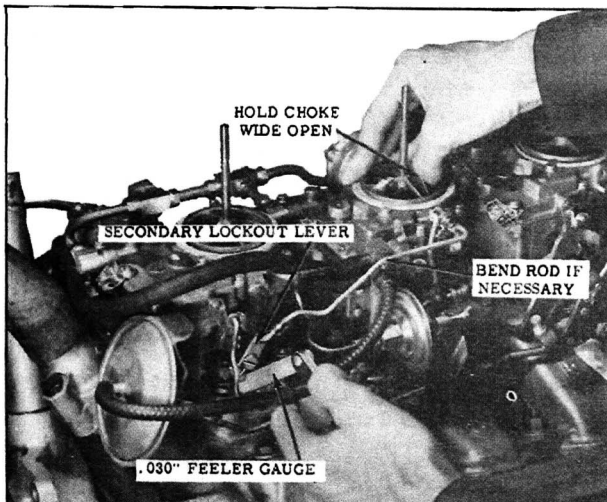

Fig. 11 Secondary Lockout Adjustment
1. Hold choke valve completely open. Check distance from side of lockout lever to the side of the tang on throttle shaft with a feeler gauge as shown in Fig. 11. This distance should be .030".